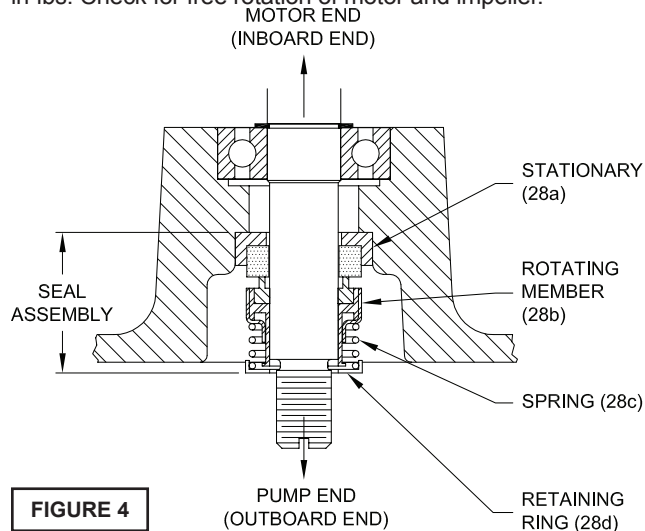

FIGURE 4
To expose shaft seal (28) for examination, disassemble volute and impeller as outlined in paragraph F-2.1. If further repair is required, remove retaining ring (28d), spring (28c) and rotating member (28b) from shaft (see Figures 4 & 5). Examine all seal parts and especially contact faces. Inspect seal for signs of wear such as uneven wear pattern on stationary members, chips and scratches on either seal face. **DO NOT** interchange seal components, replace the entire shaft seal (28). If replacing seal, remove stationary (28a) by prying out with flat screwdriver.